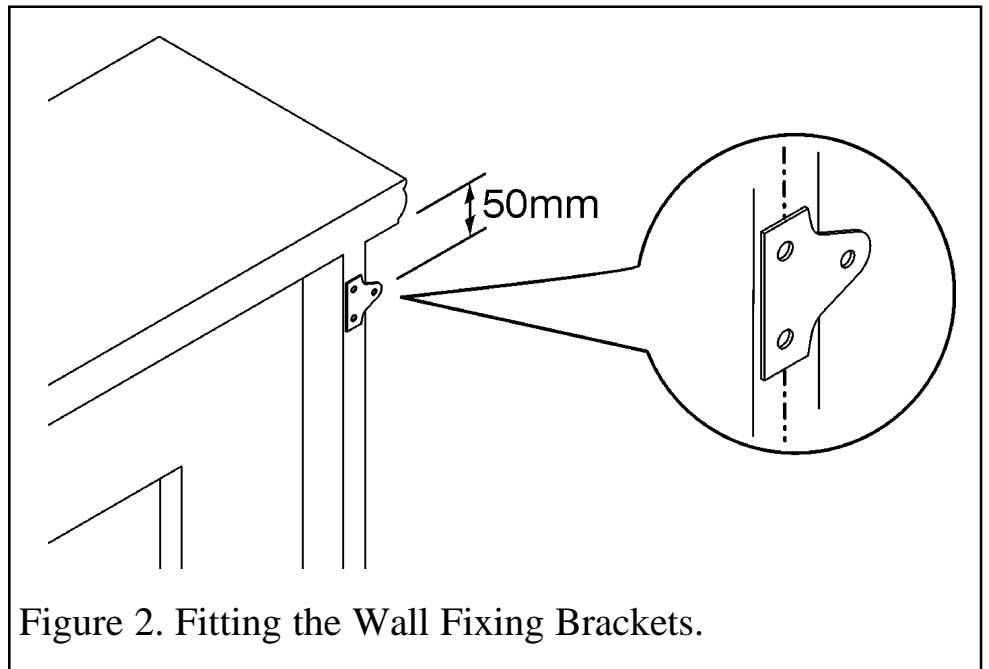

Figure 2. Fitting the Wall Fixing Brackets.
- Place wall fixing brackets (C) 50mm from the top outside edge of the legs as shown in figure 2. Ensure that the two fixing holes in the brackets are positioned in the centre of the outside edge of the leg. The wood may split if the fixing holes are not central. Secure in place using four screws (D).